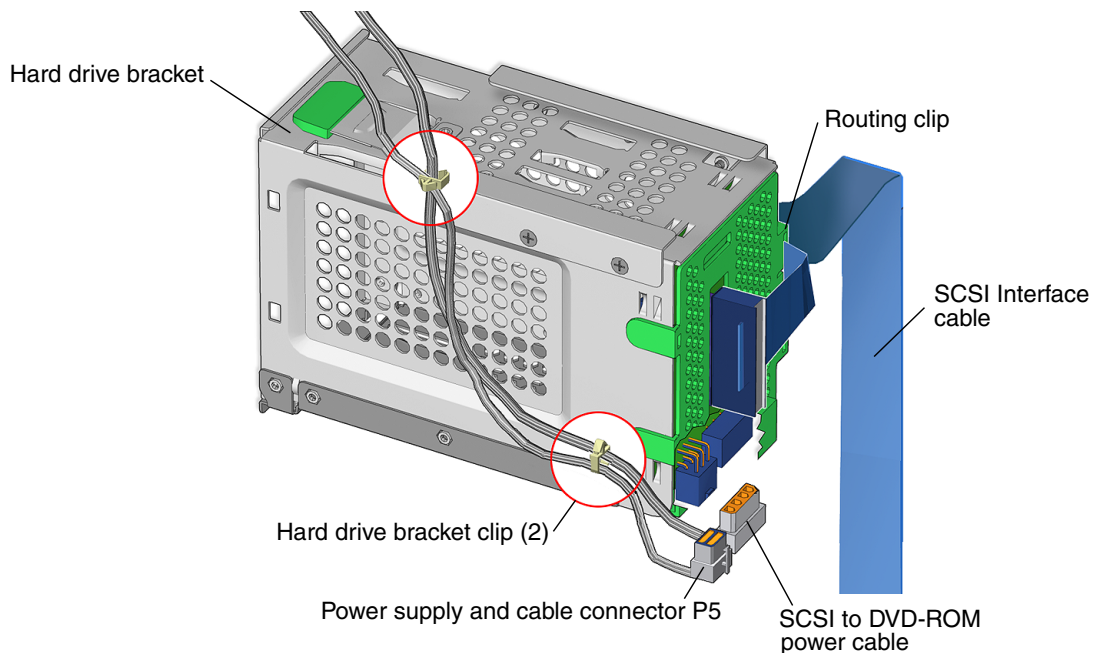

FIGURE 13-26 Disconnecting the Power Supply Cable
6. Disconnect the two power cables (FIGURE 13-26).
b. Release the interface cable from the routing clip (FIGURE 13-26).